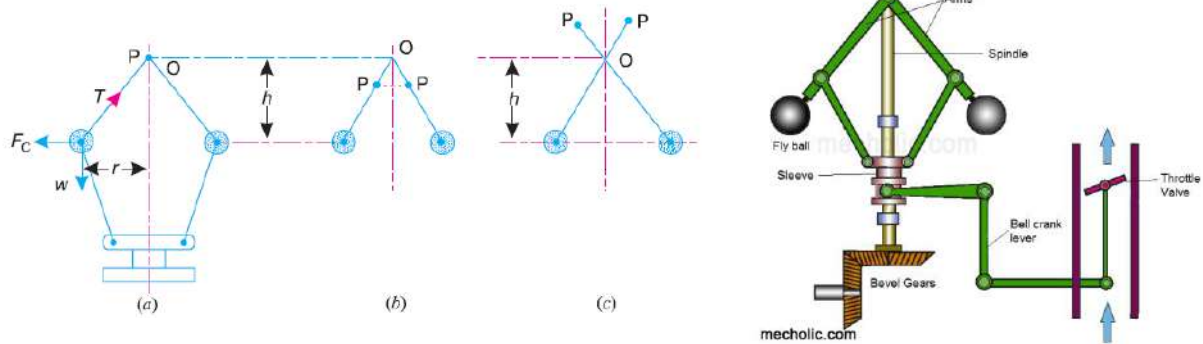

Fig. 2. Watt governor.
The simplest form of a centrifugal governor is a Watt governor, as shown in Fig. 2
1. The pivot P may be on the spindle axis as shown in Fig. 2 (a).
2. The pivot P may be offset from the spindle axis and the arms when produced intersect at O , as shown in Fig.2 (b).
3. The pivot P may be offset, but the arms cross the axis at O , as shown in Fig.2 (c).